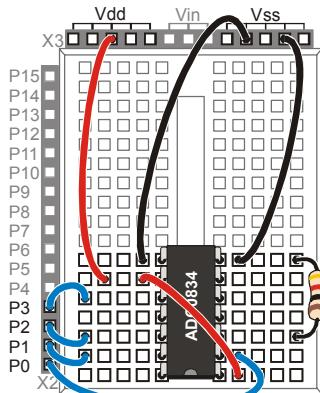

Figure 1-11
- ✓ Modify the circuit by moving the 1 kΩ resistor so it connects pin 3 (CH0) and pin 7 (Vss) of the ADC0834. This is shown in the schematic in Figure 1-10 and the wiring diagram in Figure 1-11.